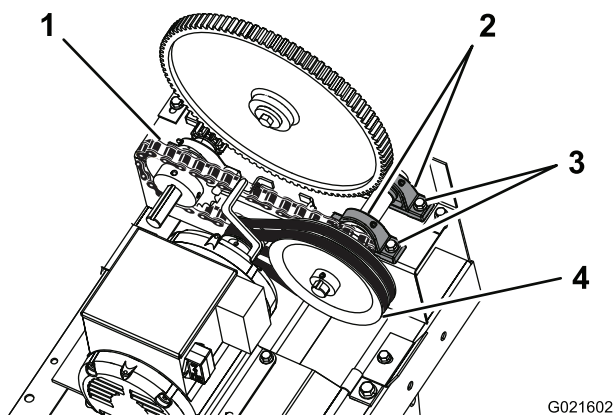

Figure 42
2. Loosen the nuts and bolts that secure the pillow-block bearings for the idler pulley (Figure 42).